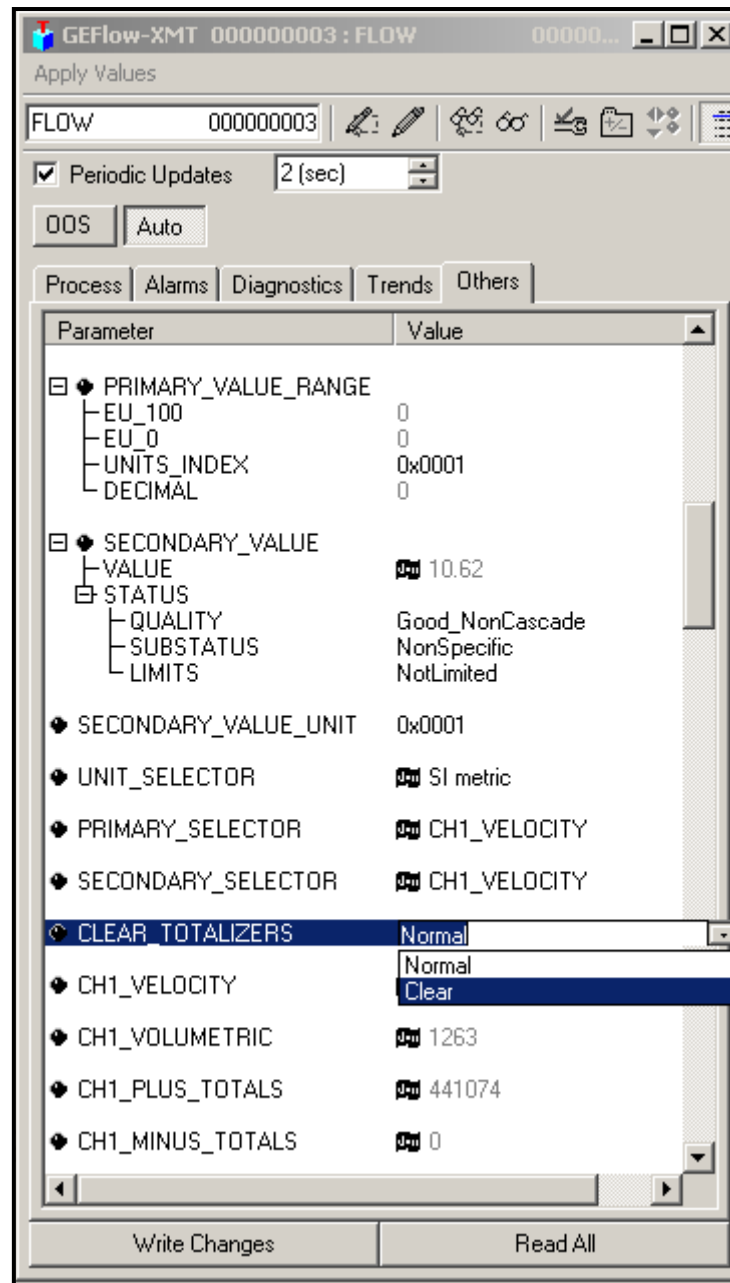

Figure 42: Clear Totalizers Drop Down List
3. Select **Clear** from the drop down list box (see Figure 42 below).